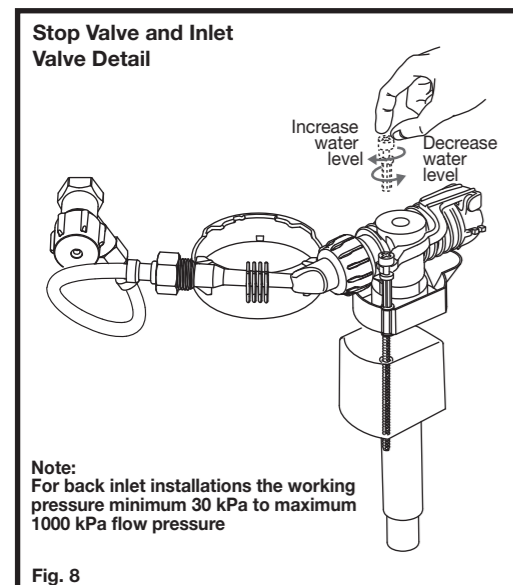

Fig. 8
- 5- Fit cistern stop valve (supplied) to the 1/2" B.S.P. nipple in the wall using approved thread seal, in the downward angled position as detailed in Fig. 8.
- 9- Adjust water level to the 4.5 litre water level mark inside the cistern by simply turning the float arm screw in a clockwise or anti-clockwise direction as detailed in Fig. 8.